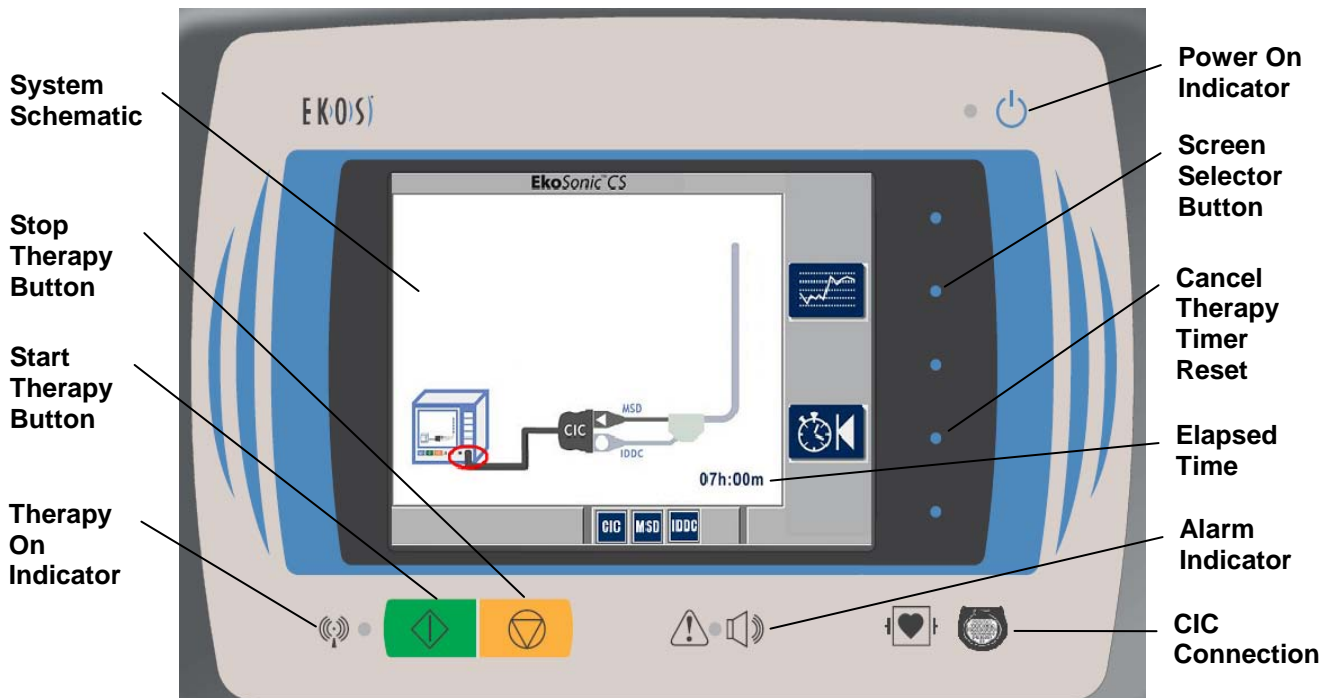

Figure 4. EkoSonic Control Unit in Schematic Screen
- When the Control Unit successfully completes the self-test, the software will transition to the Schematic Screen. See Figure 4 for an example of the Schematic Screen.
- Figure 4 specifically shows that the Connector Interface Cable (CIC) has not been plugged into the Control Unit. The red circle around the front panel plug in the Schematic Screen indicates where the CIC must be attached to the Control Unit. Ultrasound output will not be allowed unless the CIC, IDDC, and MSD are properly connected to the CIC. To help avoid un-intentional disconnects, insure that the MSD and IDDC are secured into the CIC Clip.